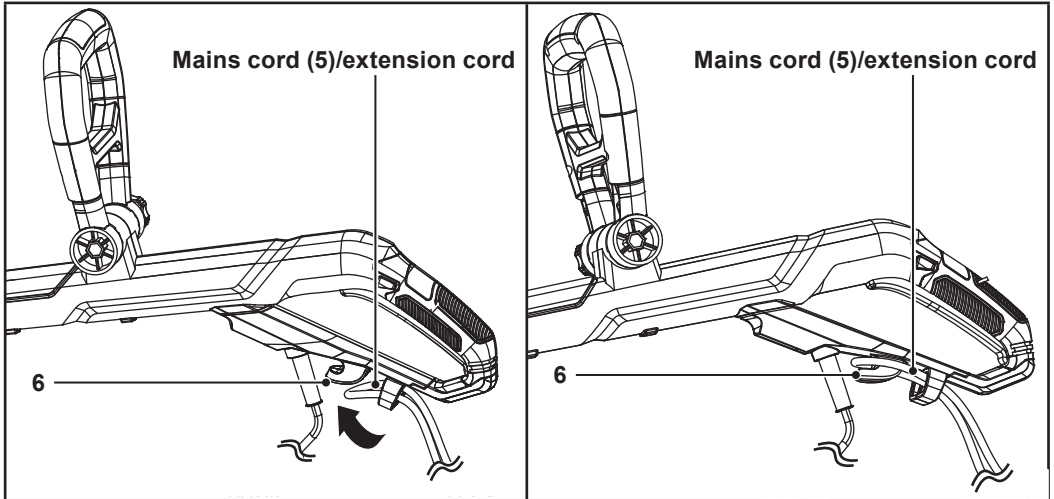

Fig. 8
**For UK only:** Hook in the mains cord (5) into the cord strain relief (6) instead of the extension cord. Hang the mains cord up in the same way as described in the following steps.
1. Form a loop from the end of the extension cord. Pass the loop through the opening of the cord strain relief (6) (Fig. 8).
2. Hook the extension cord into the hook of the cord strain relief (6) (Fig. 8). Keep the extension cord hanging freely for at least 60 cm.
3. Connect the mains plug (5) to the extension cord.